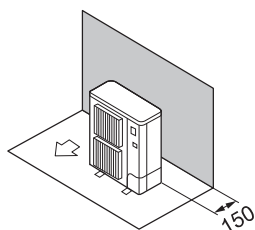

Fig. 2-7
- ① Obstacles at rear only (Fig. 2-7)